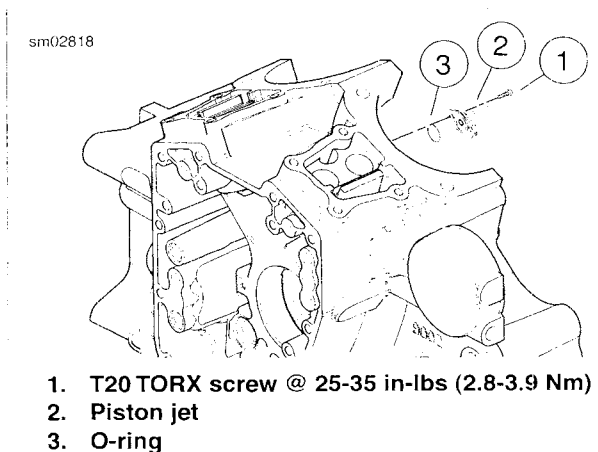

Figure 3-144. Piston Jets
1. See Figure 3-144. Remove two T20 TORX screws (1) to free piston jet (2) from crankcase.
2. Remove o-ring (3) from groove in mounting flange of jet. Discard o-ring.
1. See Figure 3-144. Apply a very thin film of clean H-D 20W50 engine oil to **new** o-ring (3) for piston jet. Install **new** o-ring in groove of jet mounting flange.
2. With jet pointed upward, start two T20 TORX screws (1) to secure piston jet (2) to crankcase. Tighten to 25-35 in-lbs (2.8-3.9 Nm).